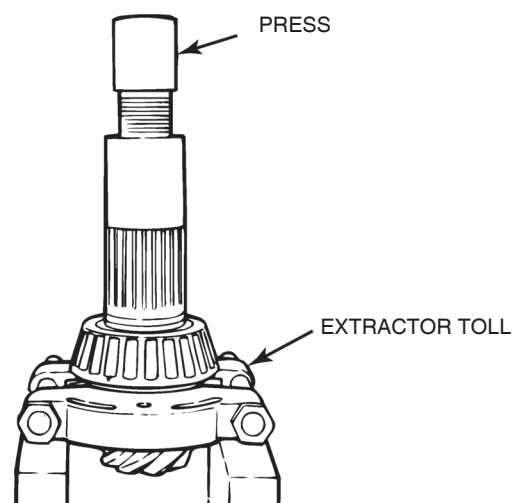

Figure 3.54
4. If necessary, remove the inner bearing cone from the drive pinion. Place a bearing extractor under the inner race to support the bearing. Place a protector on the top of the pinion shaft and press the drive pinion out of the bearing cone. Figure 3.54.